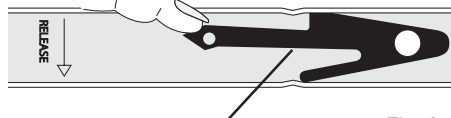

Fig. 2
3. On left warmer drawer rail, locate black release lever and press up with finger while pulling out slightly on the drawer handle. On right warmer drawer rail, locate black release lever and press down with finger while pulling out slightly on the drawer handle (See Fig. 2).